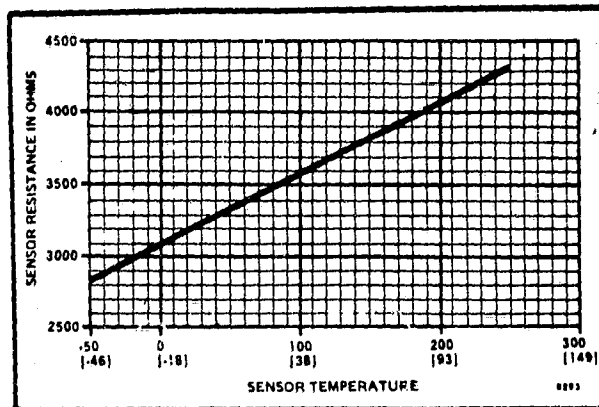

Figure 2. Converting Sensor Resistance into Degrees F (C).
1. Determine the temperatures at the differential temperature controller and solar aquastat controller sensors. For the differential temperature controller, use a high resistance ohmmeter to measure the resistance across the remote sensors. Refer to Figure 2 to convert the resistance measurement to a temperature reading.